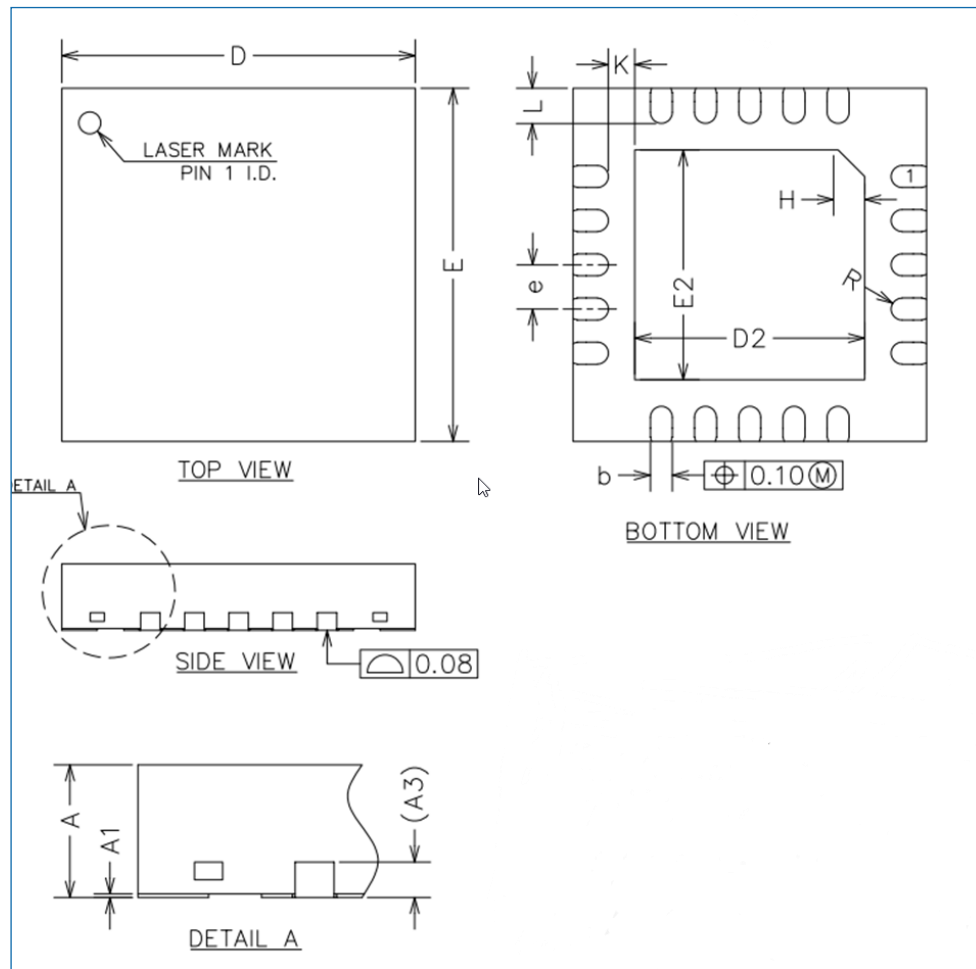

Figure 7-5 QFN20 package 2 outline
- 4 mm × 4 mm, 0.5 mm pitch package (as shown in Figure 7-5): HK32C003F4U6